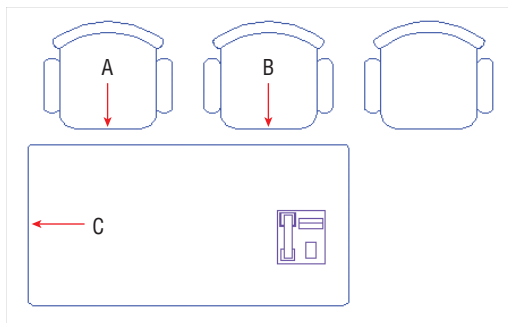

FIGURE 7.28 Copying a chair
7. Click the Copy tool on the Modify panel, select the chair on the right in the middle room, and press Enter. Snap to the midpoints at points A and B shown in Figure 7.28 and press Enter. A third chair is copied so that all three are equidistant.
8. Click the Mirror tool on the Modify panel, select the three chairs in the middle room, and press Enter. Click point C shown in Figure 7.28, move the cursor to the right, and click in the drawing canvas to complete the mirror line. Press Enter to mirror three more chairs on the opposite side of the desk.